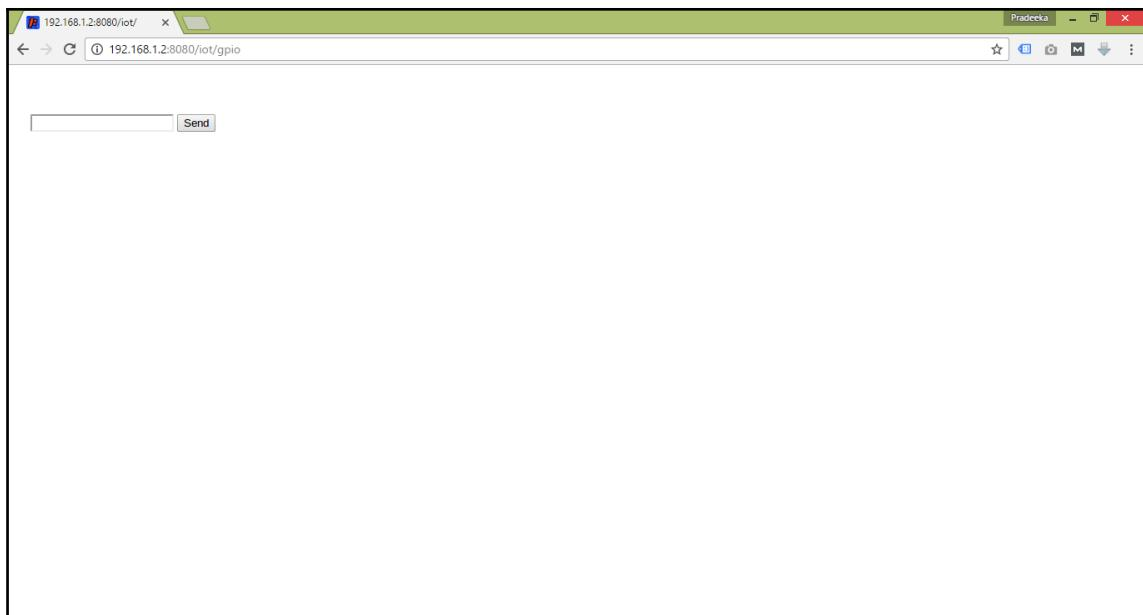

Figure 6-19: gpio servlet of the iot web application
8. The web browser will output a page similar to the following (Figure 6-19):